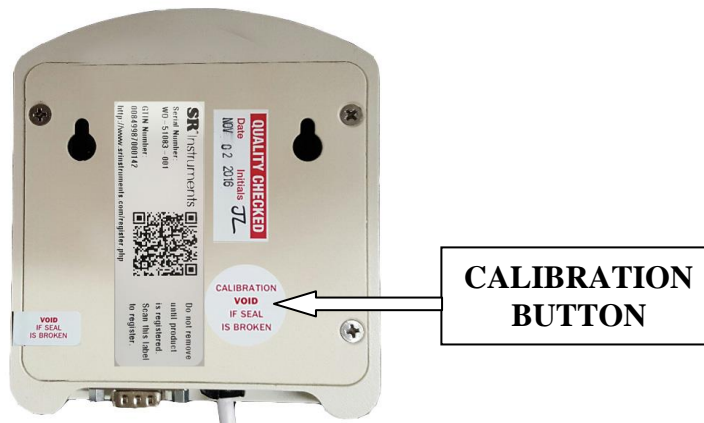
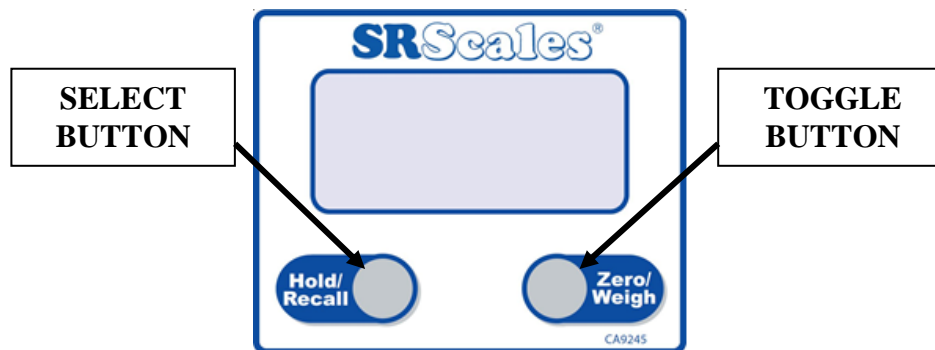

Figure 2: Calibration Button
Figure 3: Select and Toggle Buttons
To access all settings below, break the Calibration Seal. Press the calibration button (Figure 2) using the pointed-end of a pen or similar item. CAL mode is now active.
Refer to Figure 3. The Right Button allows you to toggle through the menus without saving any parameters. The Left Button permits a menu item to be selected or a parameter saved.
To enter the CAL mode, press the calibration button (Figure 2) using the pointed-end of a pen or similar item. Toggle through the menu with Right Button (Figure 3). Select or Save data with the Left Button (Figure 3).
- f) Press the calibration button (Figure 2) using the pointed-end of a pen or similar item.